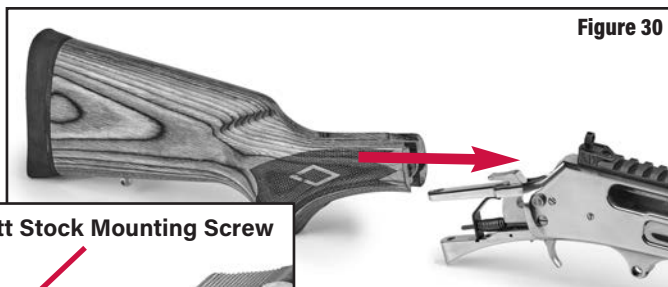

Figure 30
8. Insert the butt stock onto the rear of the receiver. See Figure 30.